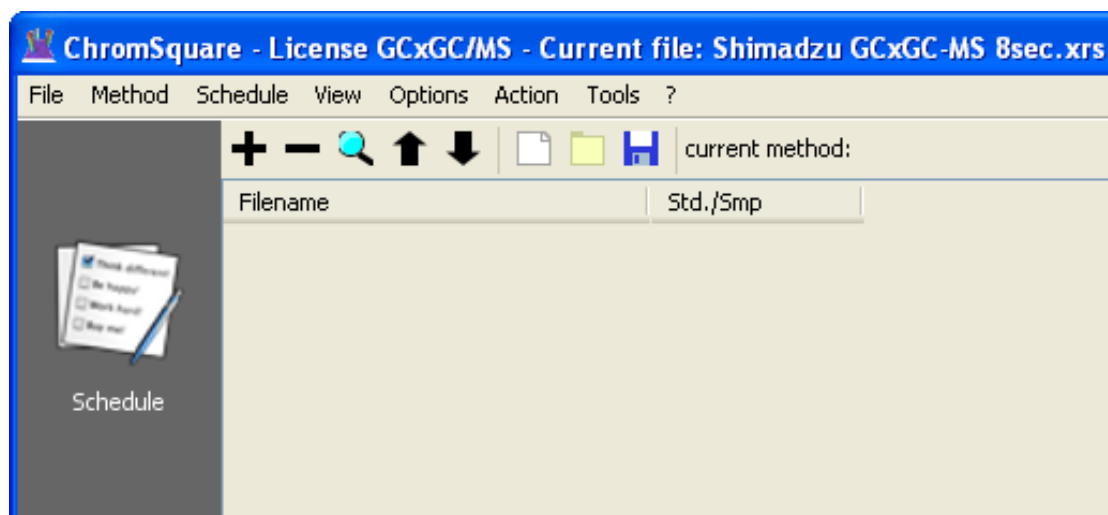

Figure 5.1: The Tool Bar of the Schedule Panel
1. Initially (when software starts or the command **New Schedule** is executed), the table only contains the header of the first two columns (“Filename”, “Std./Smp.”) and no rows, exactly as shown in Figure 5.1.